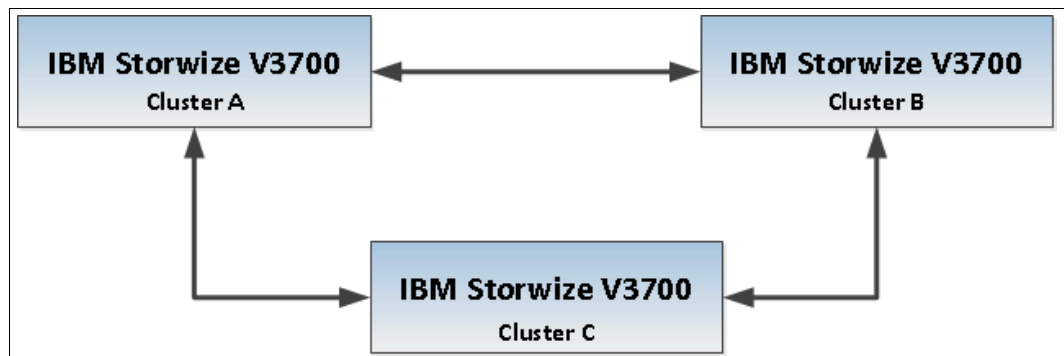

Figure 10-73 Triangle partnership topology for IBM Storwize V3700
- ▶ Triangle topology, as shown in Figure 10-73.